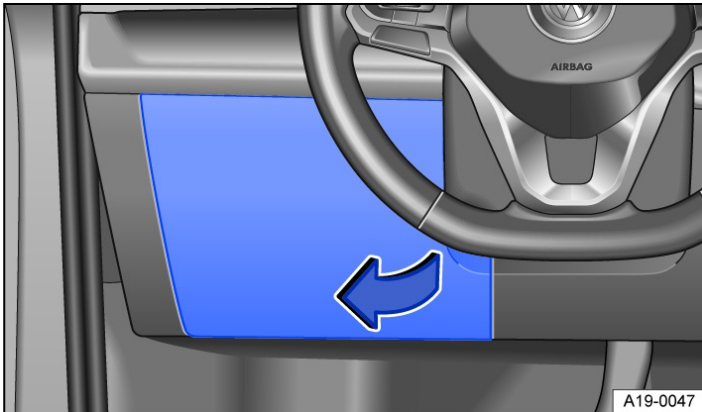

Fig. 1 In the dash panel on the driver side: fuse box cover (left-hand drive vehicle).
1. Reach behind the cover and pull off in the direction of the arrow → Fig. 1.